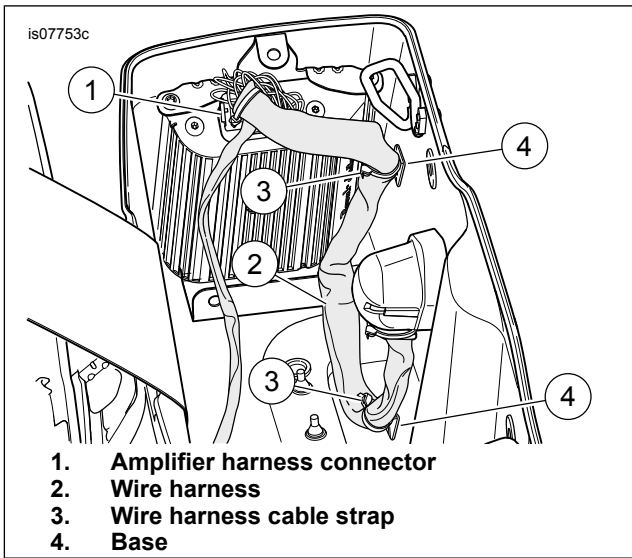

Figure 8. Inner Harness Routing
- 8. See Figure 8. Clean the inside bottom and side surfaces of the saddlebag with a mixture of 50-70 percent isopropyl alcohol and 30-50 percent distilled water. Connect the amplifier end of harness (2) and route the saddlebag side harness inside the left saddlebag. Secure with cable straps (3) and bases (4) as shown.